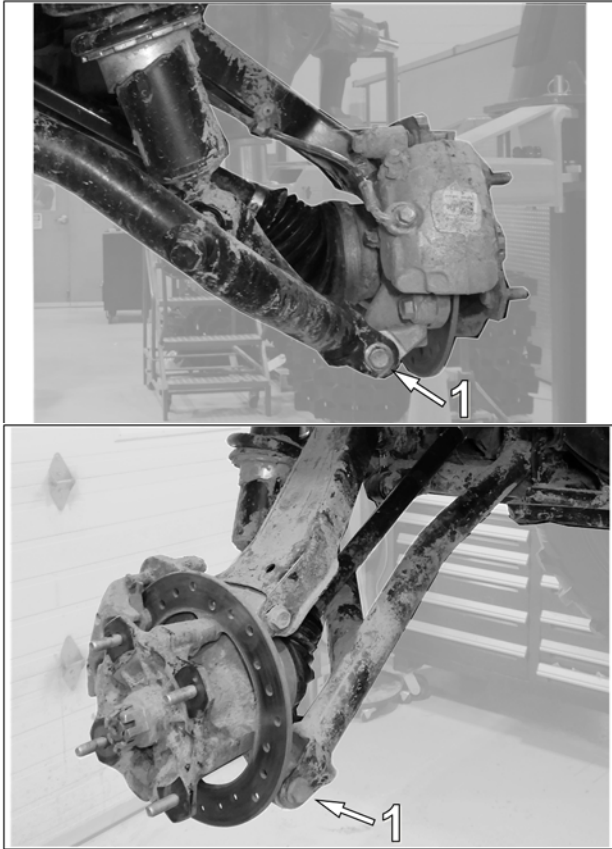

Fig. 4
4. Loosen and remove both flange bolts (1) linking the lower suspension arm to the wheel hub. See Fig. 4